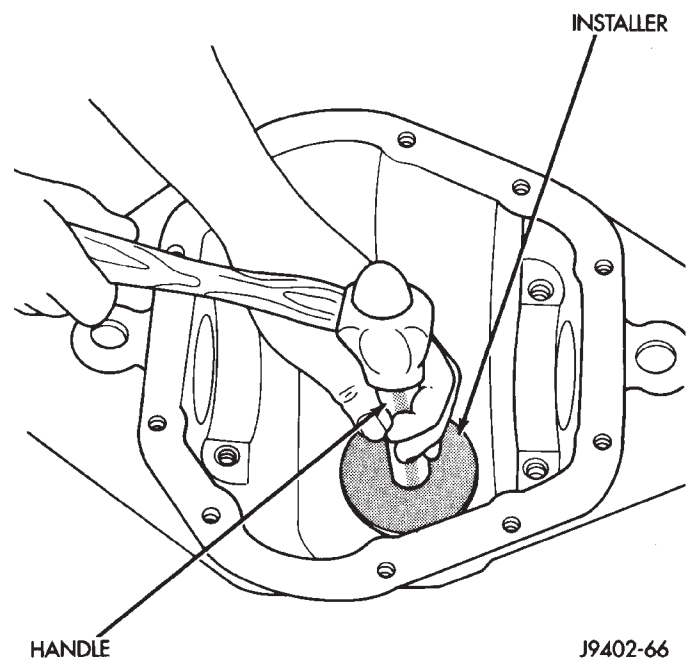

Fig. 29 Pinion Rear Bearing Cup Installation
(1) Place the depth shims (and baffle if equipped) in the pinion gear rear bearing bore. Install the bearing cup with Installer D-146 and Driver Handle C-4171 (Fig. 29). Ensure cup is correctly seated.